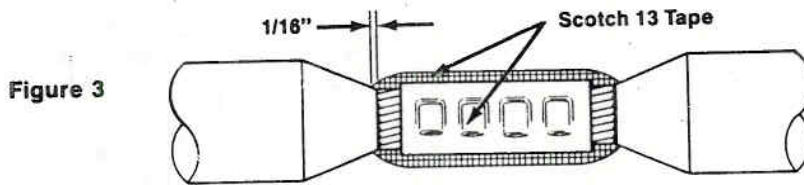

Figure 3
4. Fill connector indents with Scotch 13 Semi-conducting Tape; smoothly apply 2 half-lapped layers, highly elongated over exposed conductor and connector area, **OVERLAPPING 1/16" (2 mm) ONTO INSULATION PENCILS.** (Figure 3)